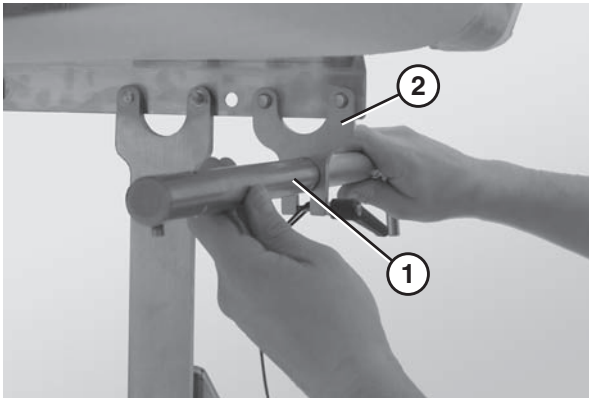

Figure 19
2. Slide the notched end of the scraper shaft (Figure 19, item 1) through the adjustment plate (Figure 19, item 2).